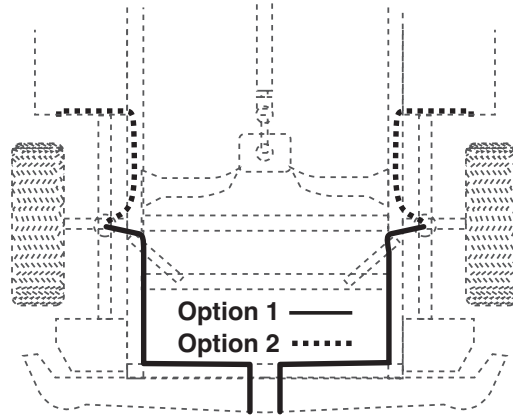

fig. 9
1. Select a location for the inflation valves in the plow frame or front bumper, insuring that each valve will be protected and accessible with an air hose (Figure 9).